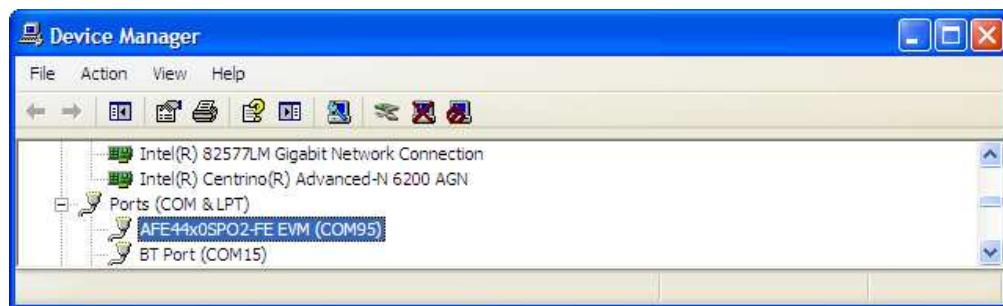

Figure 12. Device Manager Screen
6. The AFE44x0SPO2-FE EVM is now recognized as *Virtual COM Port* under the Device Manager as shown in Figure 12.